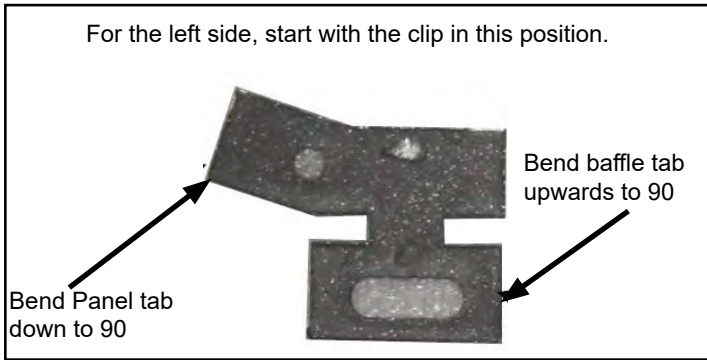

Figure 17.1.04:
Step 2: Starting with the LEFT or RIGHT SIDE PANEL, place the panel in the appropriate side. Using the brick clip, secure the panel. The clips are shipped flat and will need to be bent as shown in **Figure 17.1.04**.